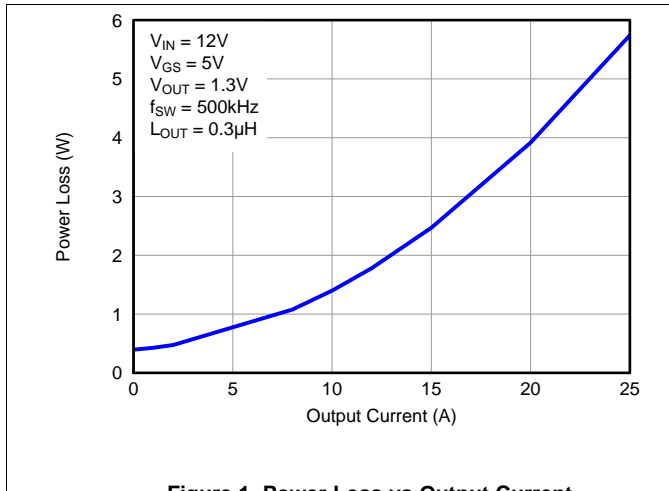
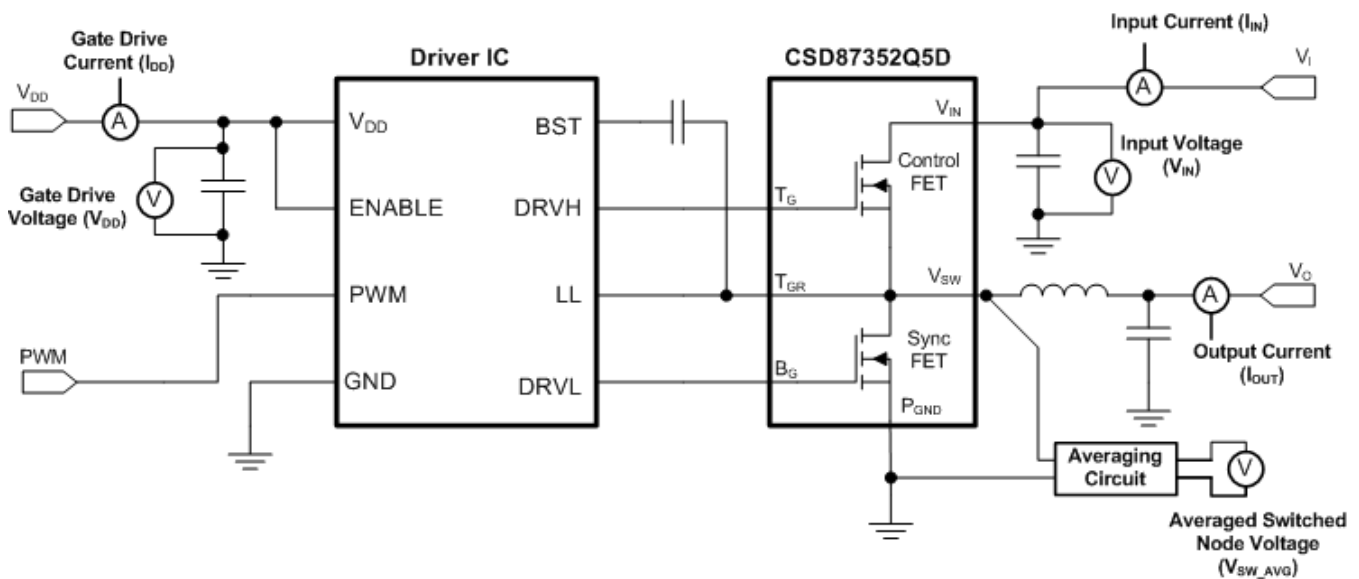

Figure 1. Power Loss vs Output Current
Figure 32. Typical Application
MOSFET centric parameters such as $R_{DS(ON)}$ and Q_{gd} are needed to estimate the loss generated by the devices. In an effort to simplify the design process for engineers, Texas Instruments has provided measured power loss performance curves. Figure 1 plots the power loss of the CSD87352Q5D as a function of load current. This curve is measured by configuring and running the CSD87352Q5D as it would be in the final application (see Figure 32). The measured power loss is the CSD87352Q5D loss and consists of both input conversion loss and gate drive loss. Equation 1 is used to generate the power loss curve.
The power loss curve in Figure 1 is measured at the maximum recommended junction temperatures of 125°C under isothermal test conditions.
- Power loss at 15 A = 2.5 W (Figure 1)